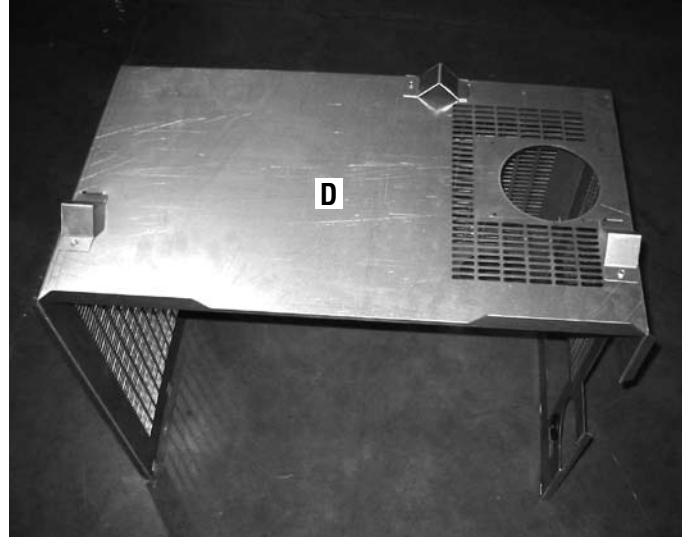
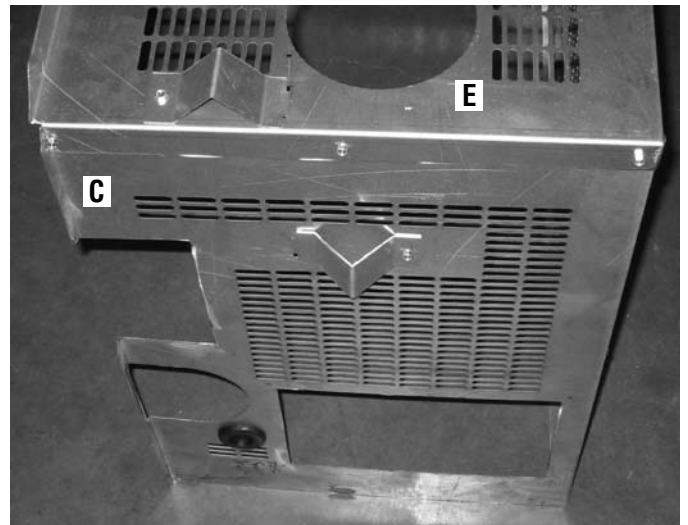

Figure 57
Figure 58
4. Installing the standoffs, parts G. There are 3 standoffs on the top panel D (see **Figure 57**). Insert them by taking the lip of the standoff and sliding them into the slots then push down. Using a sheet metal screw provided screw them into the hole provided. There is also one standoff on each the right, left and the back panel. Showing standoff on left panel C in **Figure 58**.